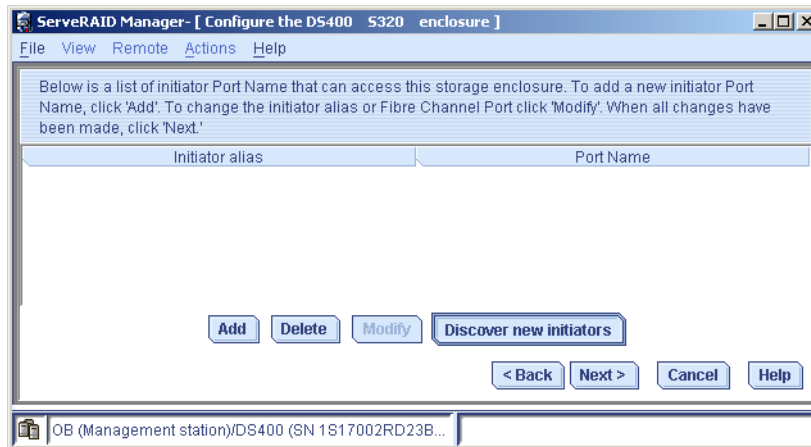

Figure 4-105 Discover new initiators
21. The dialog shown in Figure 4-105 on page 142 is used to discover new initiators, add or manage existing initiators. Click the **Discover new initiators** button.